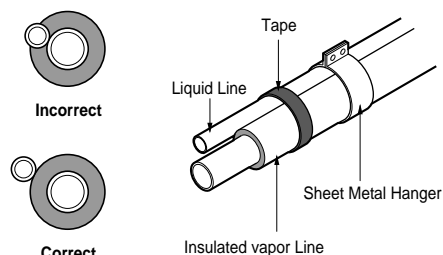

Fig. 4
- Vapor line must be insulated (See Figure 4).